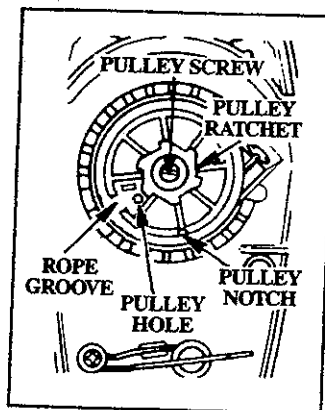

Figure 27
10. Remove screw from the starter pulley very carefully. Rotate the pulley clockwise \rightarrow until no spring tension is felt and carefully lift the pulley out of the fan housing. Figure 27. Remove the old rope.
17. Carefully replace pulley in the housing. Be sure the pulley is all the way down. Replace washer and screw and tighten. Figure 27.